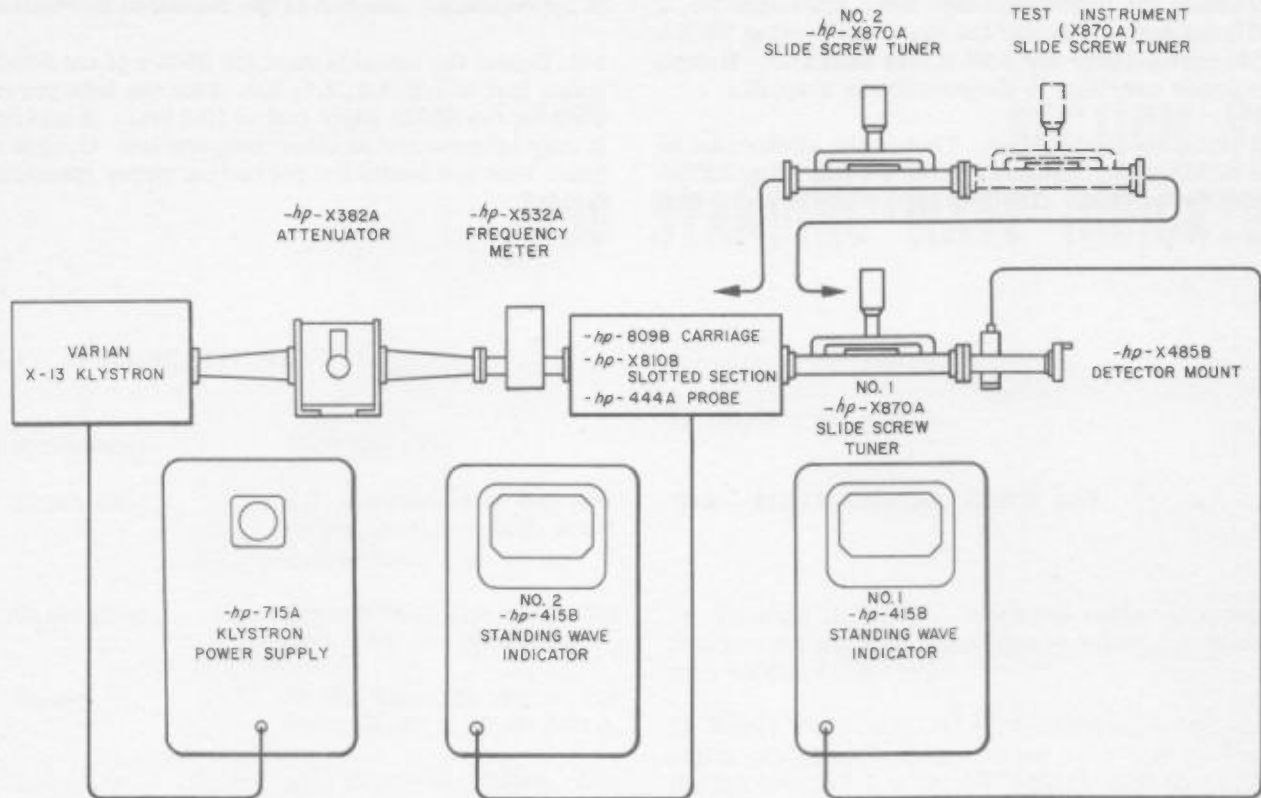

Figure 7-2. Checking X870A Slide Screw Tuner Loss
- 3) Connect the equipment as shown in Figure 7-2 to measure the tuner loss.